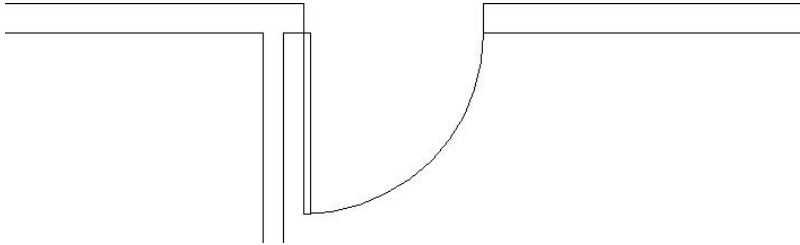

FIGURE 4.36: The mirrored door and swing
6. Type $y \downarrow$. The flipped door is displayed, and the original one is deleted (see Figure 4.36). The Mirror command ends. Like the Copy command, the Mirror command ends automatically after one mirroring operation.